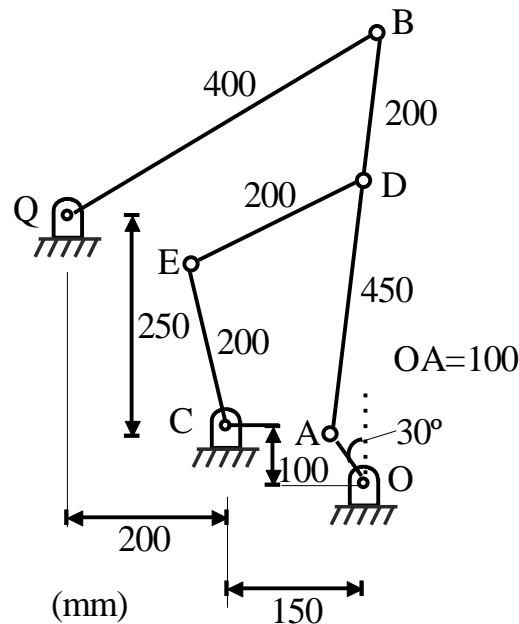

Fig. 4a
4. a) Figure 4a shows a six-link mechanism. The dimensions of the links are  $OA = 100\text{mm}$ ,  $AB = 450\text{mm}$ ,  $BD = 200\text{mm}$ ,  $QB = 400$ ,  $DE = 200\text{mm}$  and  $CE = 200\text{mm}$ . Find the angular velocity of the link CE by the instantaneous centre method if the link OA rotates at  $20\text{ rad/s}$ . 12